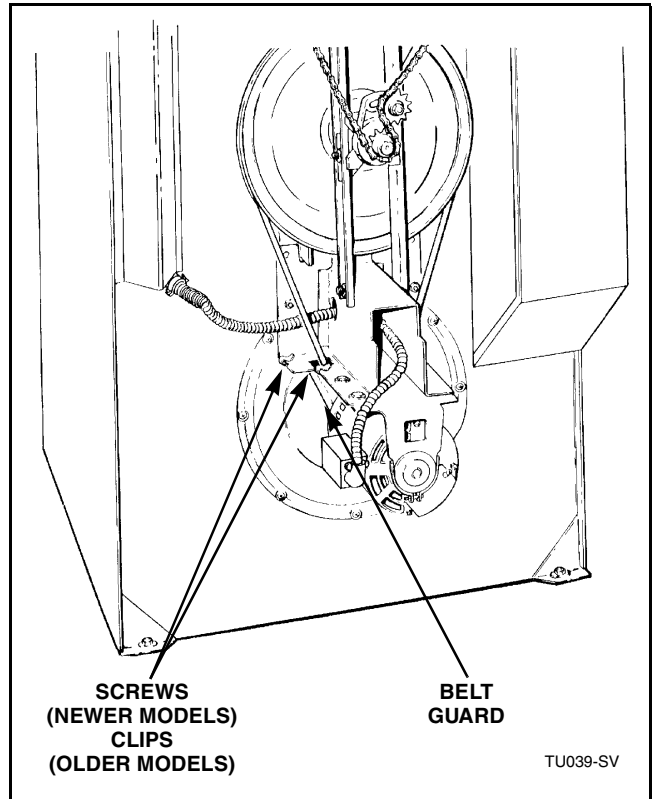

Figure 39
- Remove four clips (older models) or two screws (newer models) holding belt guard assembly to motor bracket, Refer to *Figure 39*.